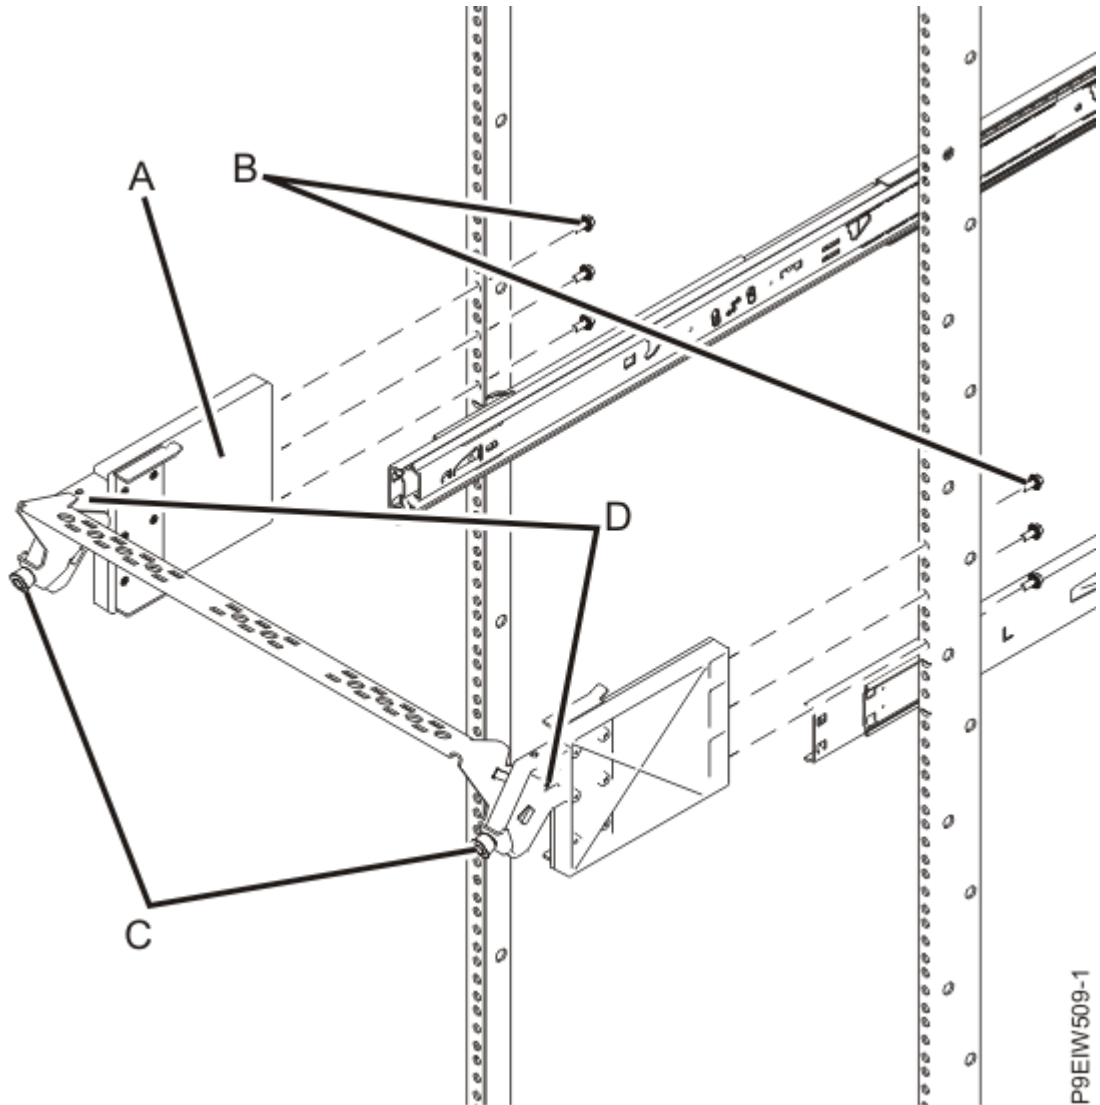

Figure 2. Attaching the cable management bracket to the rack
3. Assemble the cable management bracket by attaching the cable management bar to the cable management brackets, using two M3 screws (**D**), as shown in Figure 2 on page 7.
- b. From inside of the rack, install three screws (**B**) through the rack flanges and into the cable management bracket (**A**), as shown in Figure 2 on page 7.
5. Adjust the cable management bracket according to your needs by pulling the thumbscrews (**C**) and tilting the bracket, as shown in Figure 2 on page 7.